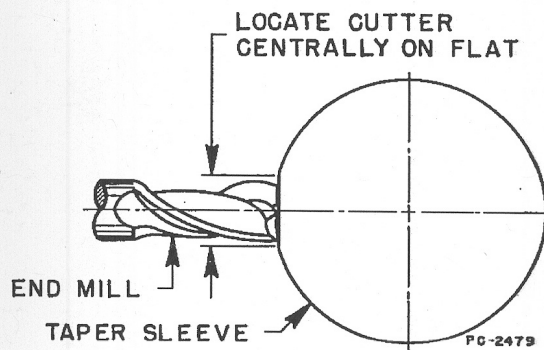
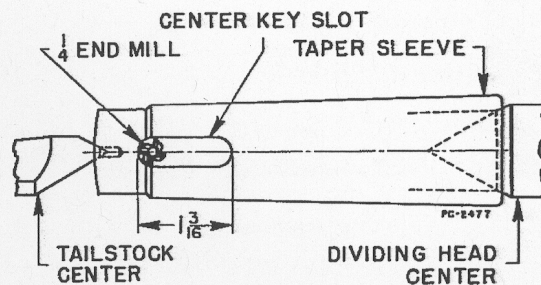

Figure 52
Figure 53A
6. Lay off the  $1\frac{3}{16}$ " dimension as per Figure 53A. Position table, knee, and saddle so  $1\frac{3}{16}$ " dimension is directly in front of cutter. Start machine spindle and move saddle in by hand until cutter starts cutting. Center cutter with flat just milled on taper sleeve (Figure 52).